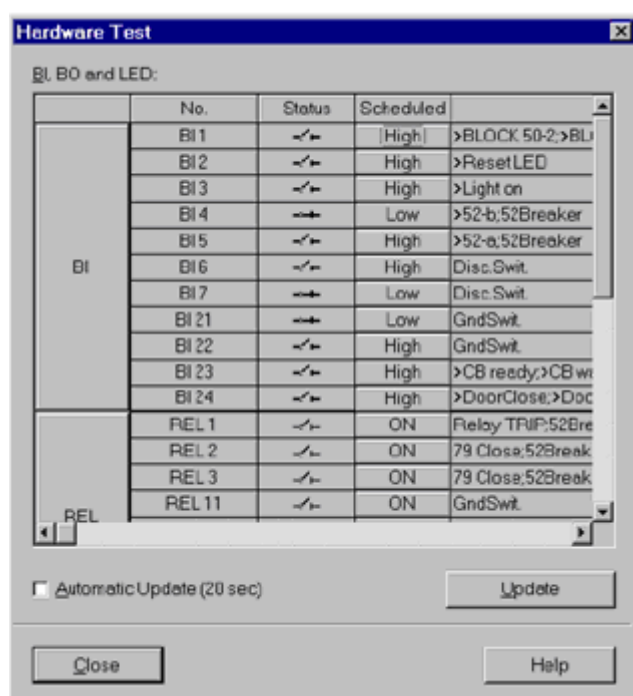

Figure 3-15 Testing of the binary inputs and outputs - example
- Double-click in the list view on Hardware Test. The dialog box of the same name opens (see the figure 3-15 as below).